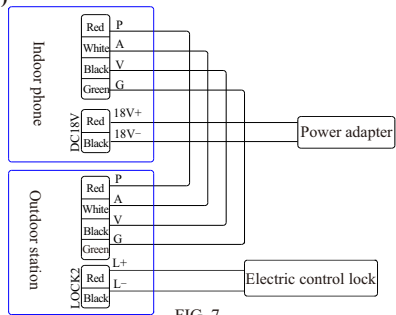

FIG. 7
(5) Wiring diagram of electric control/power e-locks (FIG.7)